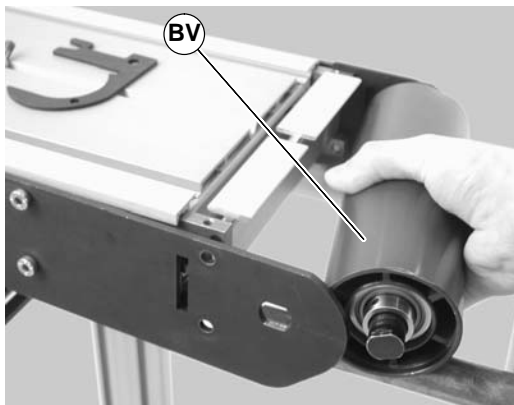

Figure 50
- Slide the idler pulley assembly (BV of Figure 50) out of the headplate on the opposite side.